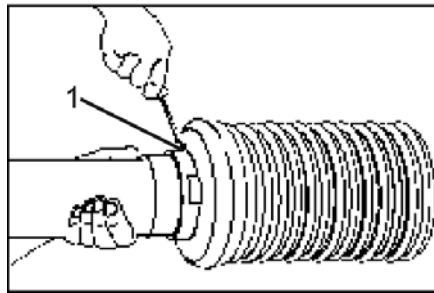

Fig. 8
- Remove fixing bolt (Fig. 8/1) .